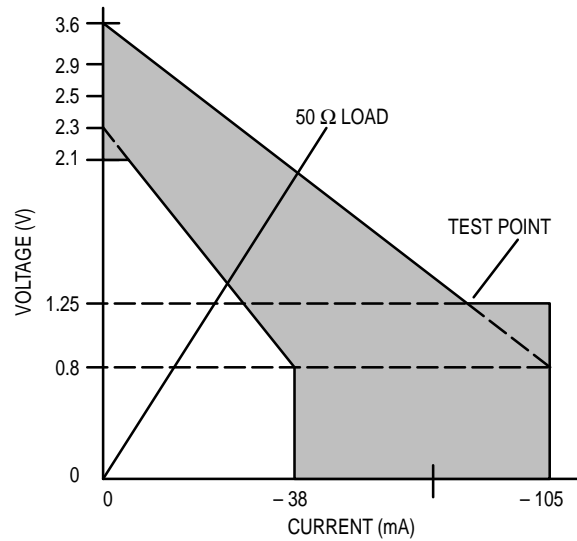

**Figure 2. AC Test Load**
Input Pulse Levels ..... 0 to 2.5 V      Output Load ..... See Figure 2 Unless Otherwise Noted
4. Tested per AC Test Load (Figure 2).
5. Measured at ± 200 mV from steady state. Tested per High-Z Test Load (Figure 2).